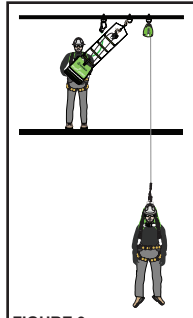
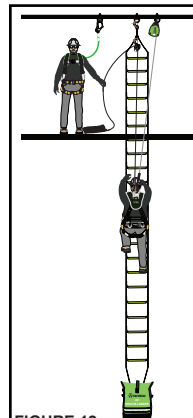

FIGURE 9
FIGURE 12
6. If the Rescue Ladder with Belay is being used (012-6042), deployment of the ladder is performed in the same manner as the 020-6041 (See Figure 9, 10, 11). Prior to the fall victim beginning to climb however, the belay rope will be attached to the harness D-ring via the supplied carabiner. **DO NOT REMOVE ORIGINAL FALL PROTECTION EQUIPMENT!** The user will then begin climbing to safety, while the rescuer removes excess slack from the belay rope by pulling rope through the rope grab. **DO NOT ATTEMPT TO HOIST THE FALL VICTIM, BUT ALWAYS MAINTAIN CONSTANT TENSION ON THE ROPE AS WORKER CLIMBS THE RESCUE LADDER** (See Figure 12). The rope grab is NOT to be used as a controlled descent device.